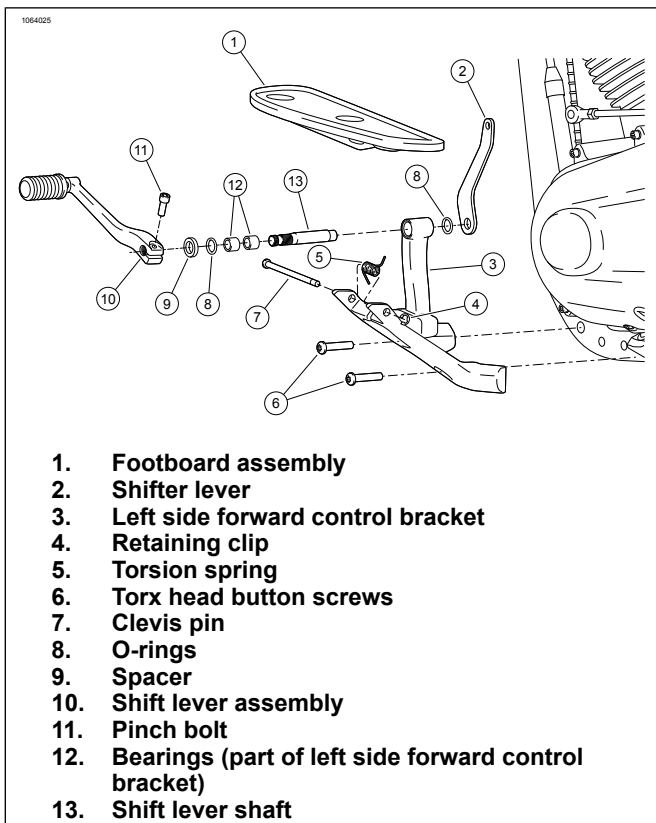

Figure 2. LEFT SIDE FORWARD CONTROL
1. See Figure 2. Position left side forward control bracket (3).